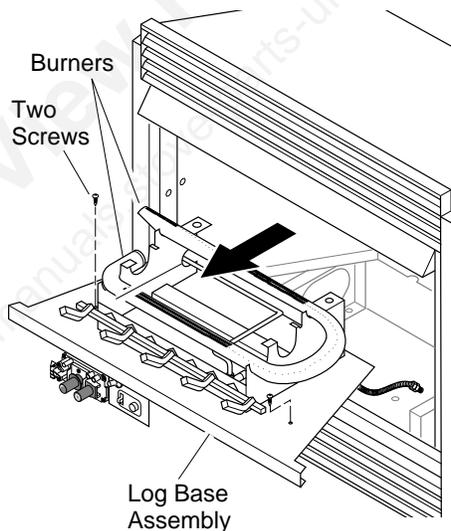

Figure 19-Removing Log Base Assembly From Fireplace
2. Remove screws that attach log base assembly to fireplace insert (see Figure 19). Carefully lift up log base assembly and remove from fireplace insert (see Figure 19).